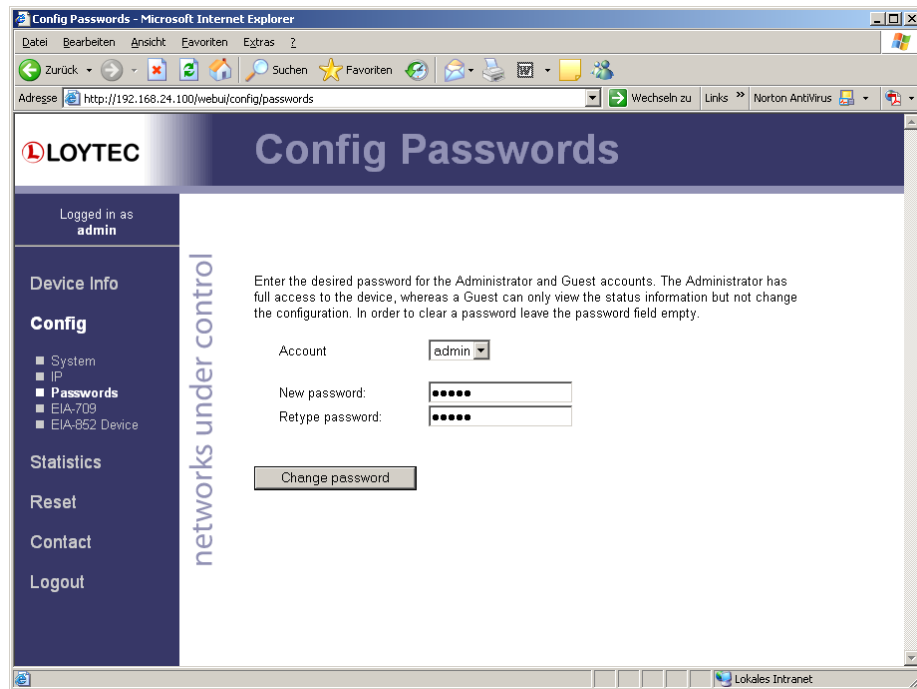

Figure 48: Password Configuration Screen
The Config menu opens. Click on "Passwords" in the Config menu, which opens the password configuration page as shown in Figure 48. The L-Proxy has two user accounts: (1) "guest" allows the user to view certain information only, e.g. the device info page. By default the guest user has no password. (2) "admin" has full access to the L-Proxy and can make changes to its configuration. Note that the user accounts are also used to log on to the FTP server.